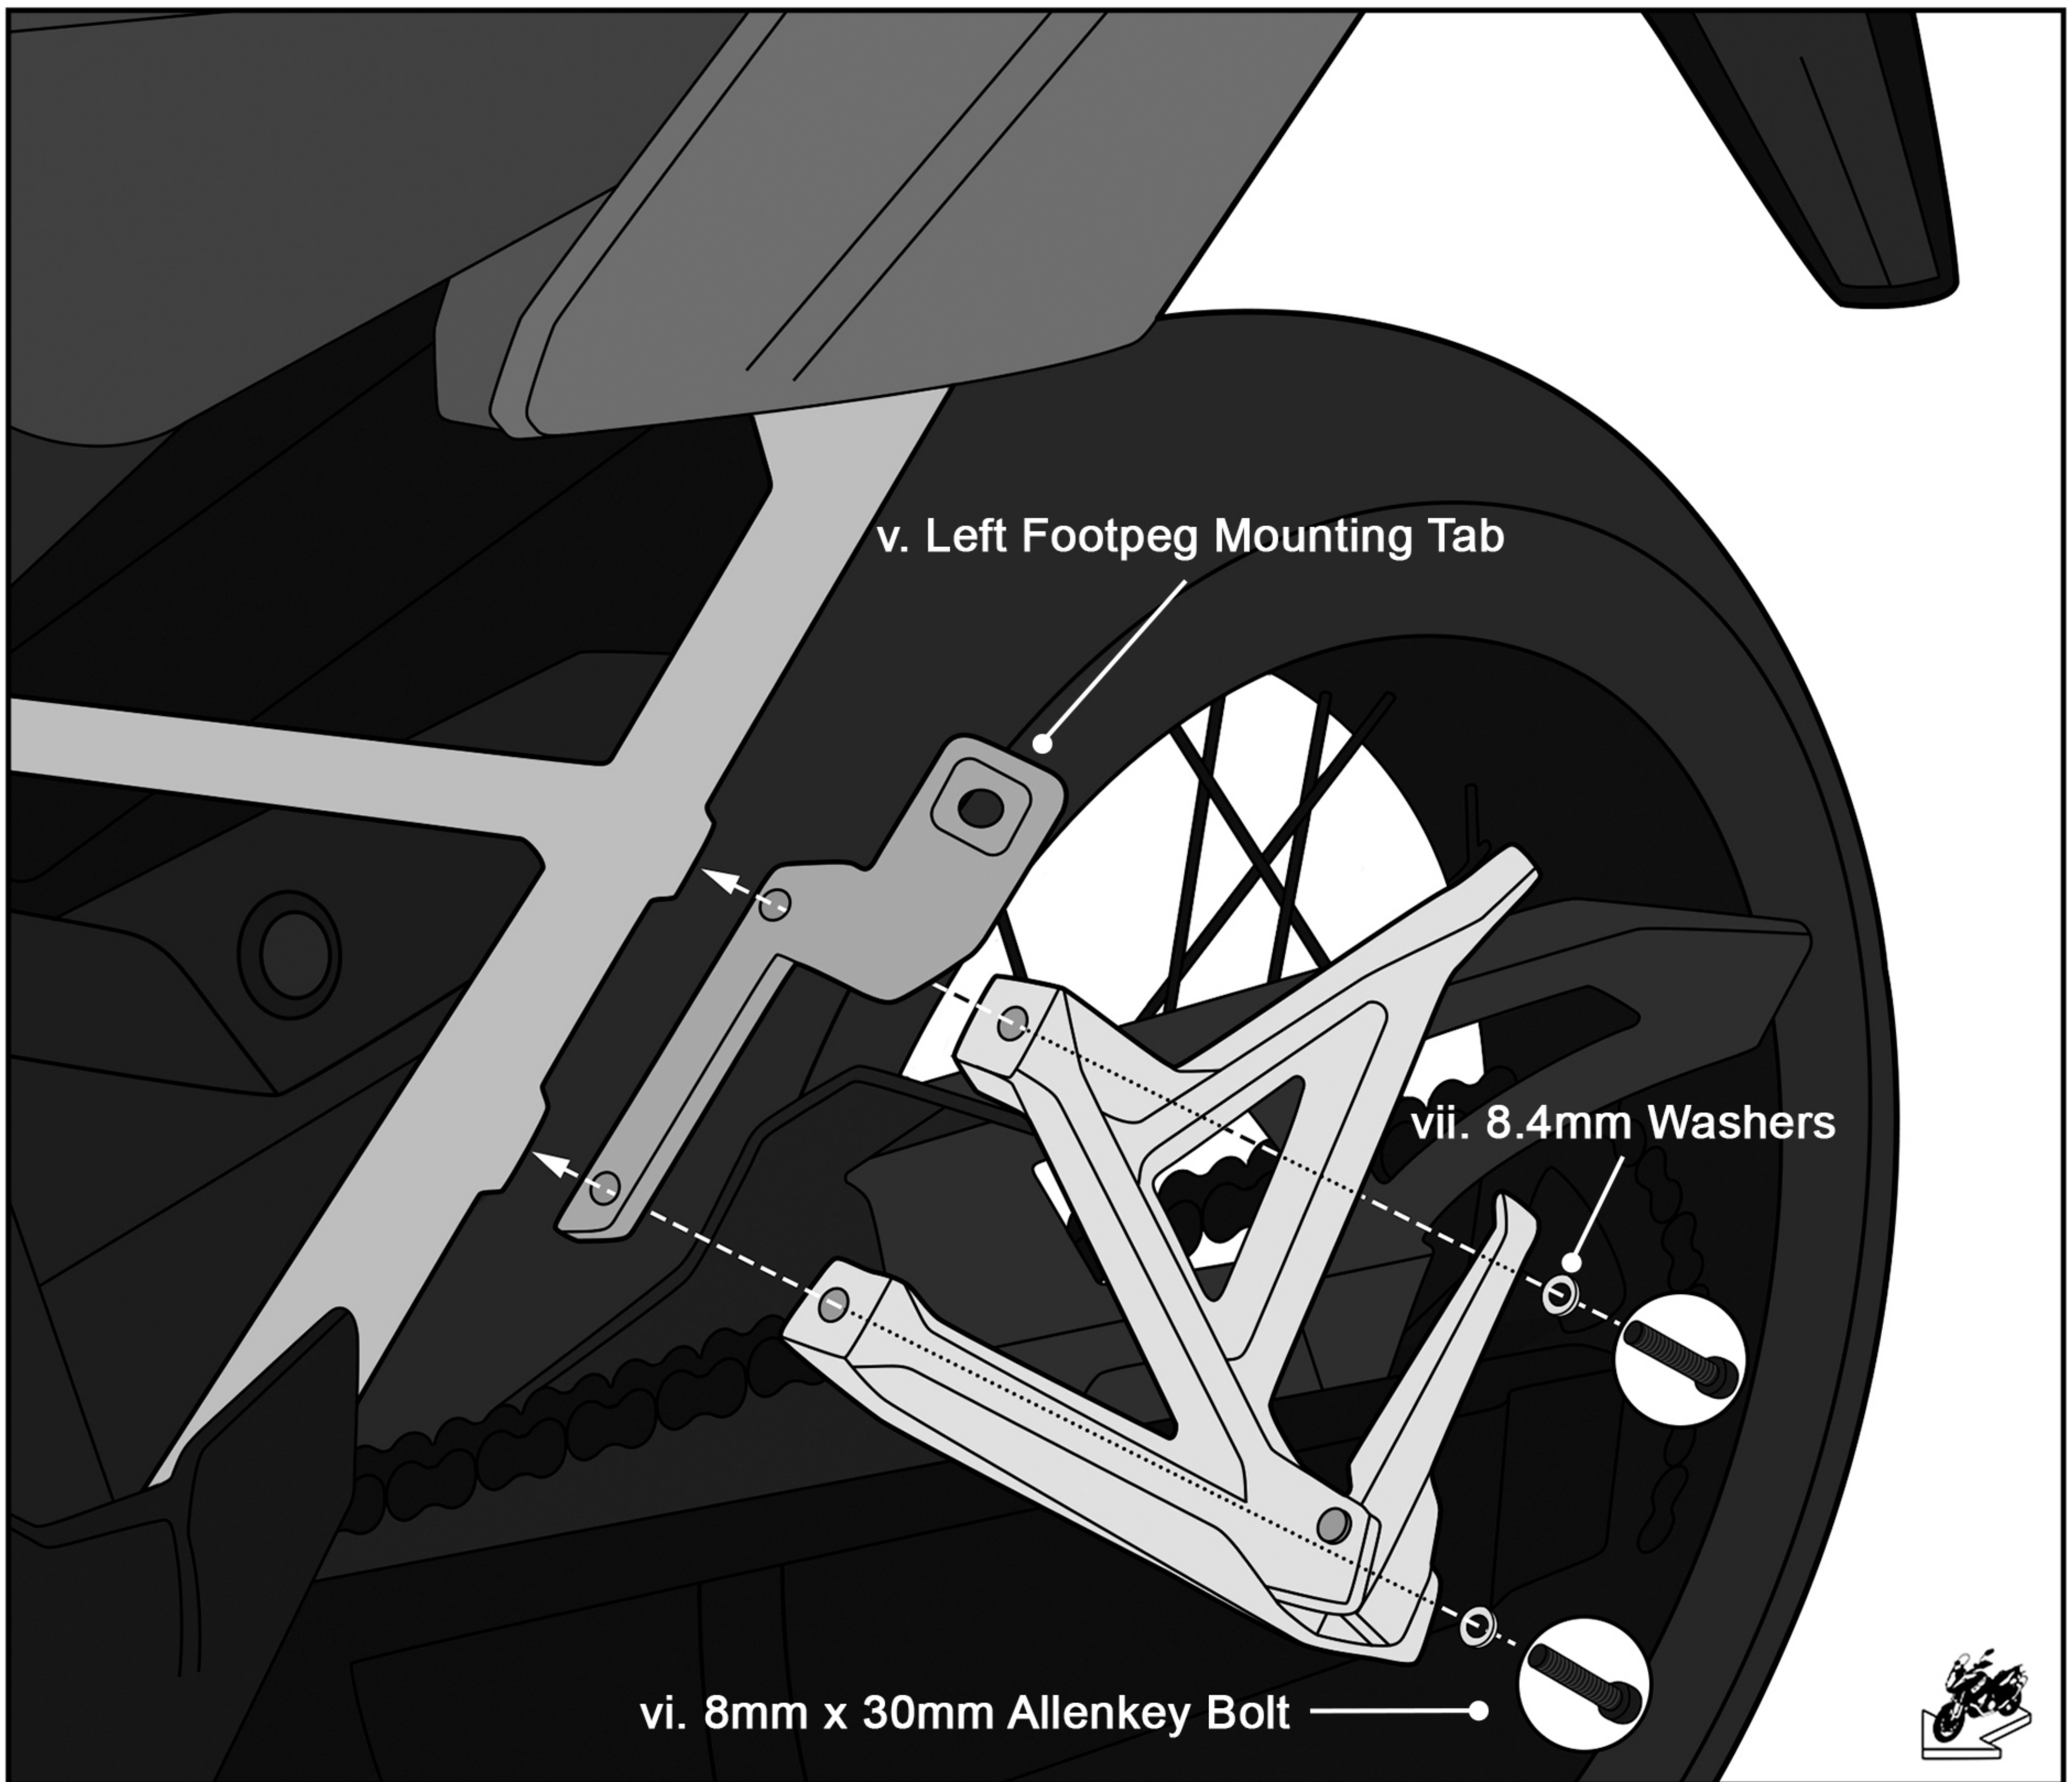
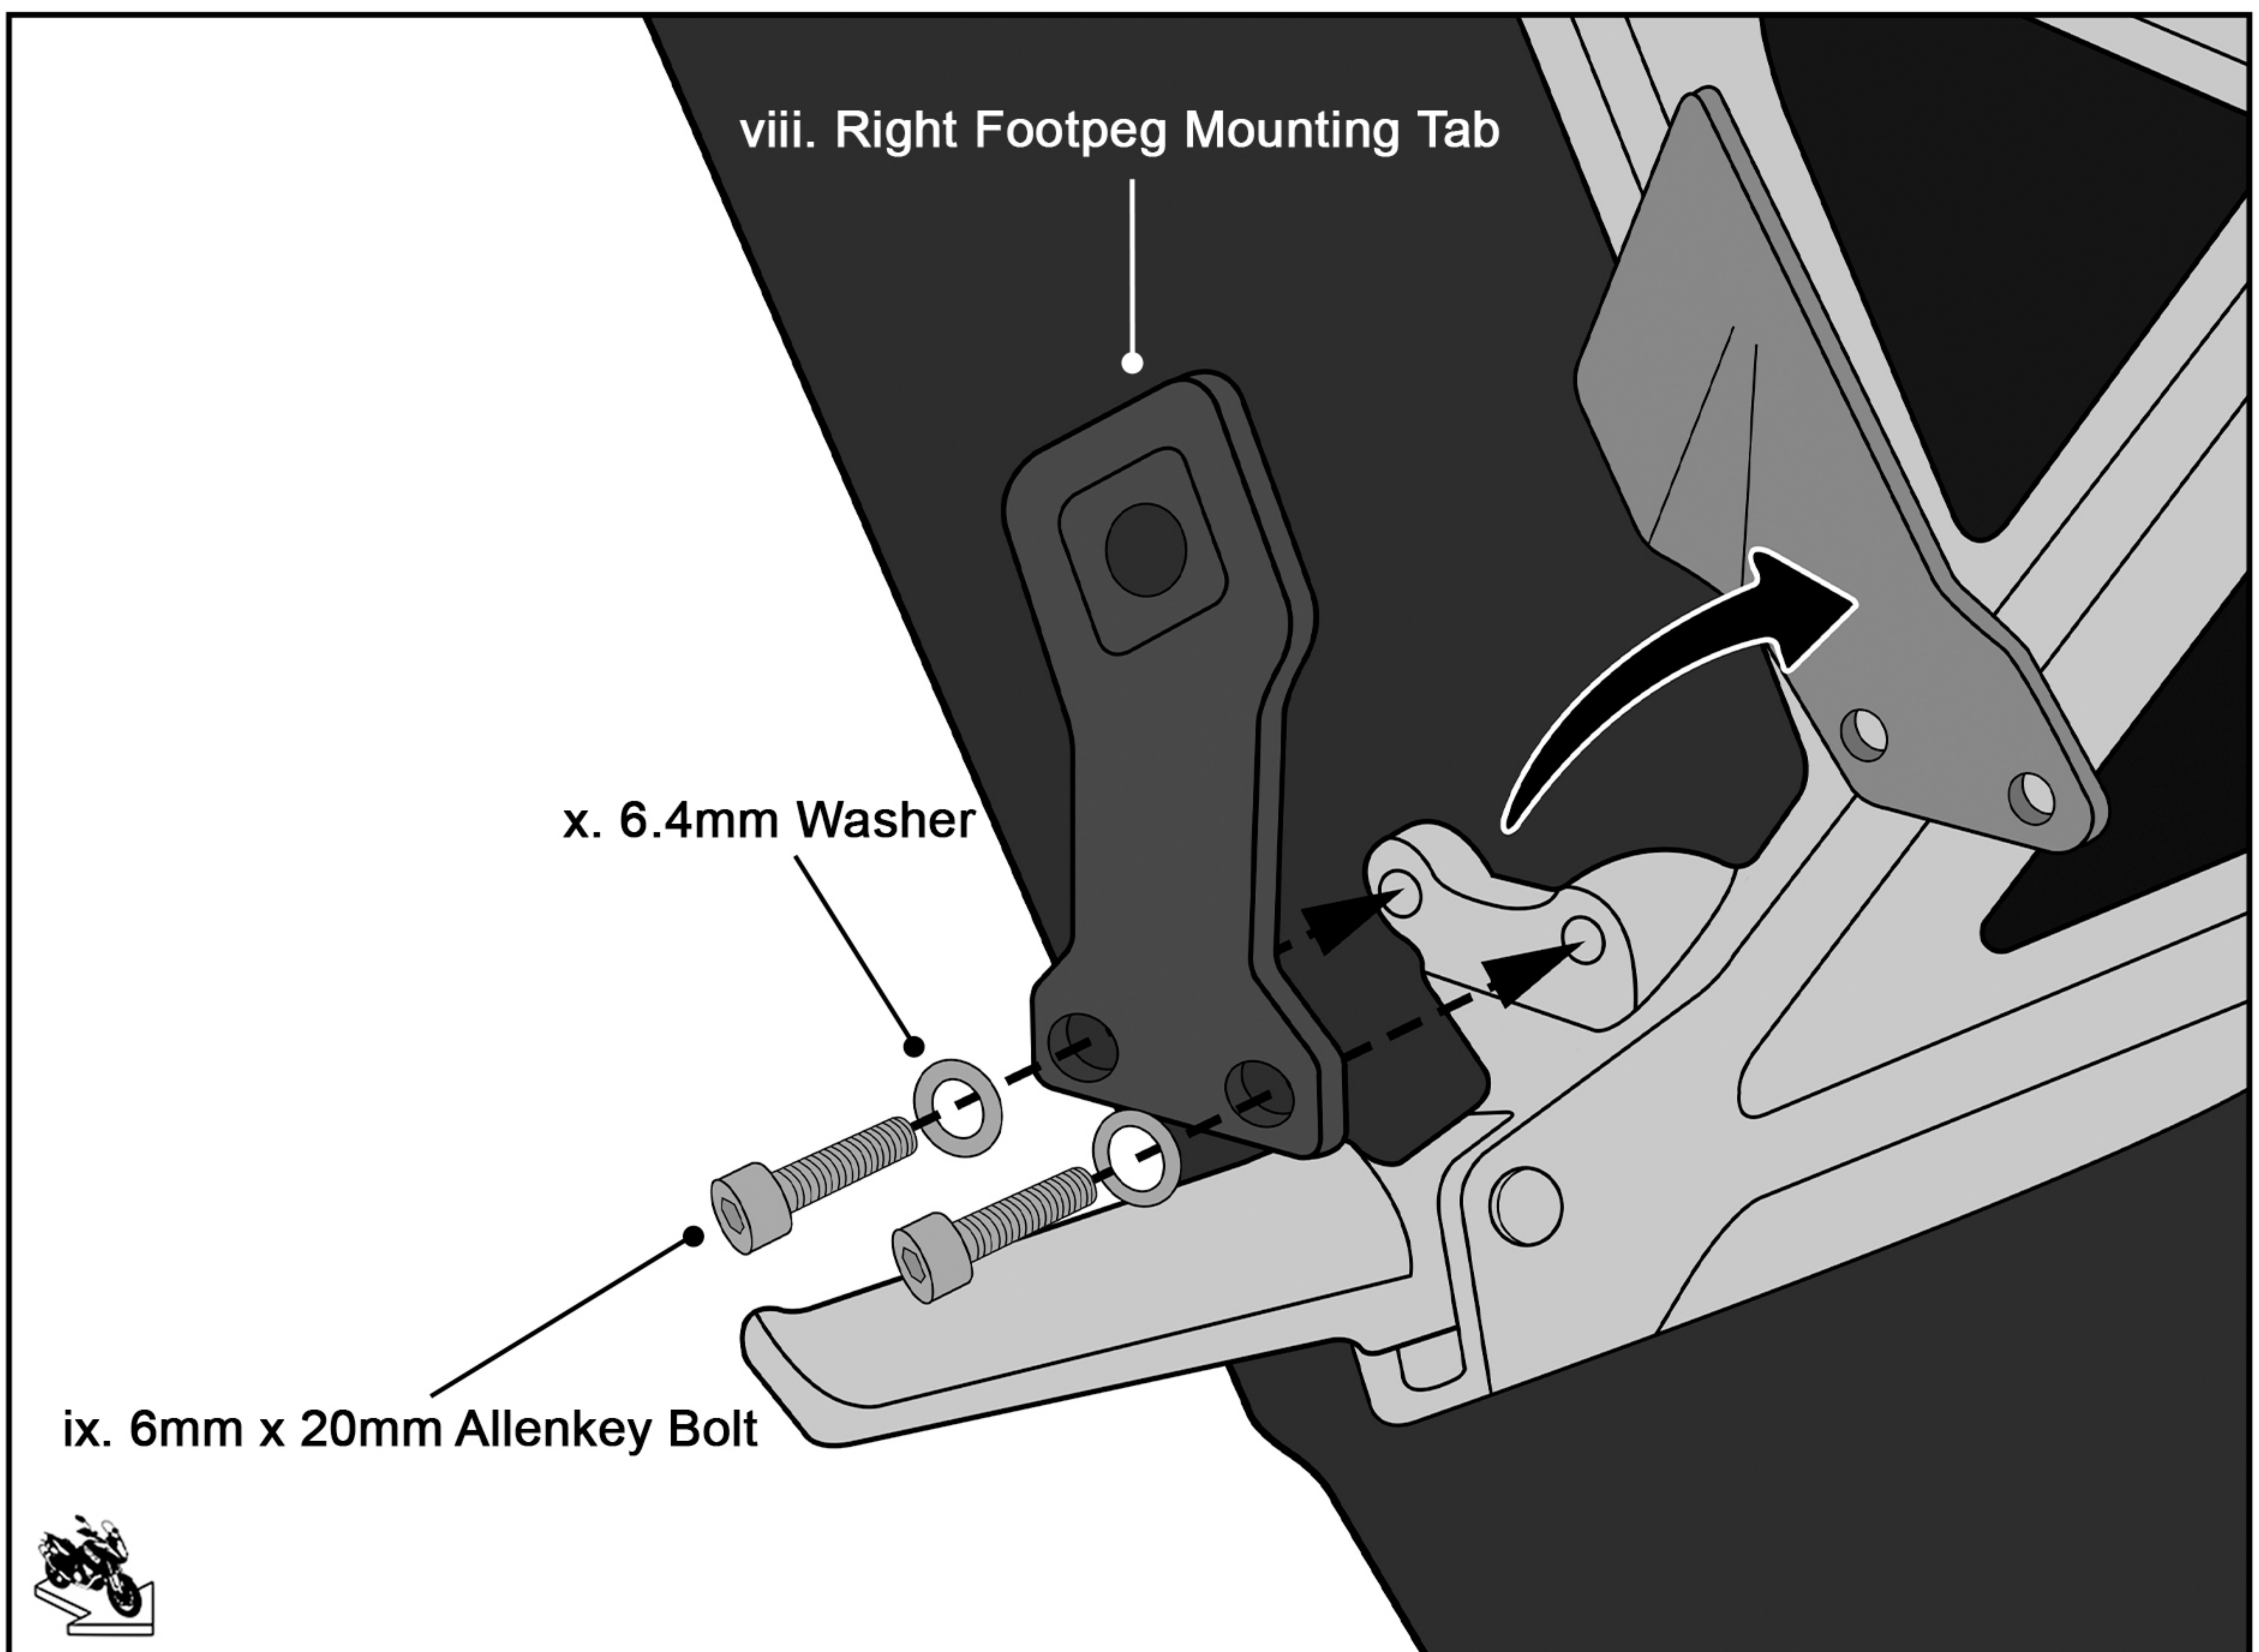

Fig 3. Installing the Left Footpeg Mounting Tab
Fig 4. Installing the Right Footpeg Mounting Tab
Remove OEM bolts from the passenger footpeg mount from both sides. Install the left footpeg mounting tab (V) on the left side of the bike and the right footpeg mounting tab (VIII) on the right side of the bike. See Fig 3. and Fig 4.